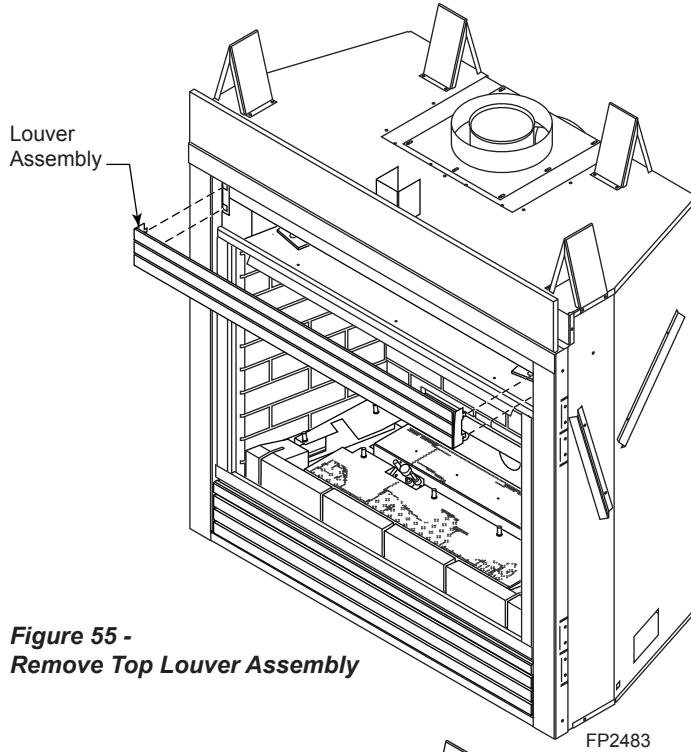

Figure 55 - Remove Top Louver Assembly
1. Unhook top louver assembly. Set aside. *Figure 55*